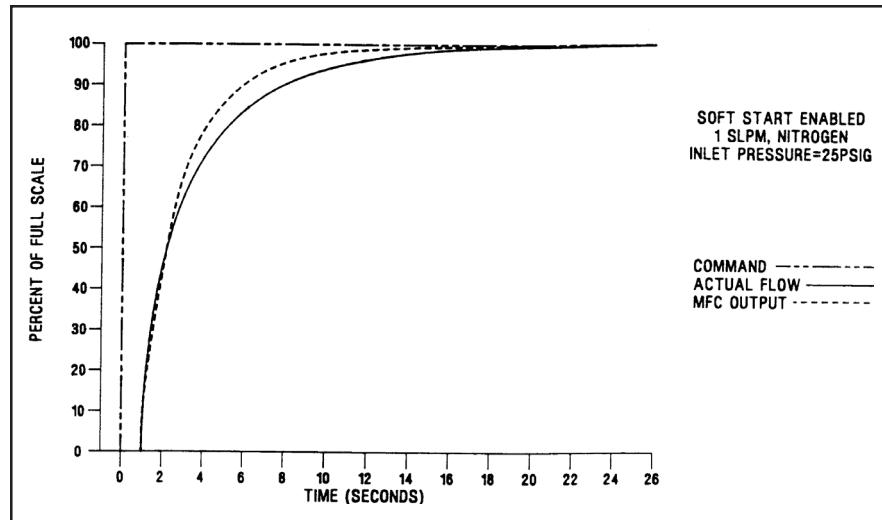

Figure 1-2 0 — 100% Command Step, Soft Start Enabled
- SOFT START provides a flow ramping function which slows down the introduction of the process gas for those processes which cannot tolerate rapid flow transition. Refer to Section 2-6 and Figure 1-2.